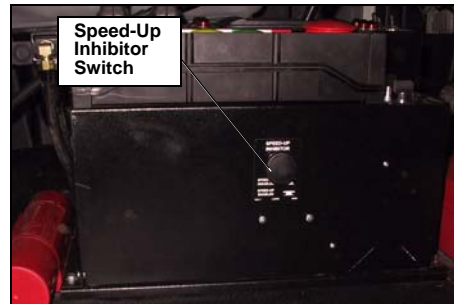

Figure 67. In-cab console from right-hand side driving position
3. Disable the speed-up system on the console (Figure 67. “In-cab console from right-hand side driving position”) by pulling out the **SPEED-UP INHIBITOR** switch.